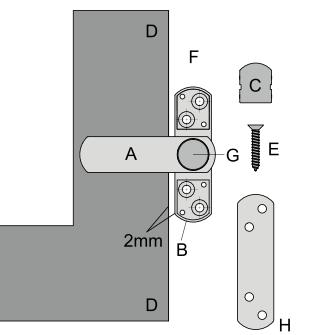

Figure 3: Assembly of the mounting block
- 2 Turn the latch (A) of the additional locking device (see Figure 3) and remove the caps (C).
- 3 Position the mounting block (B) on the window frame (F). When doing so, pay attention that there is 2 mm distance between the window casement (D) and mounting block (B). The 2 mm spacer plate (H) supplied can be used as an aid to determine the distance.
- 4 Mark the 4 drill holes for the retaining screws (E).